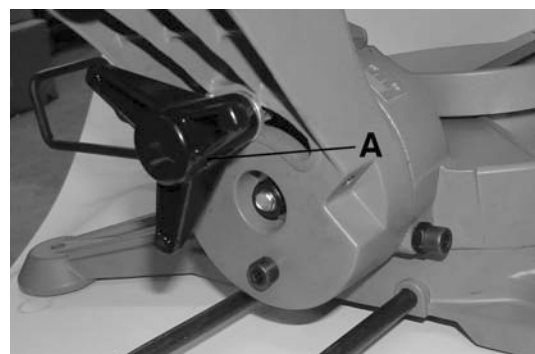

Figure 10
Loosen the bevel lock knob (A) Fig.10, the saw head can be inclined to any angle you desire. If you incline the head all the way to the left, you will get a 45° bevel angle. Once the desired bevel angle is obtained, it is very important that you retighten the bevel lock knob (A).